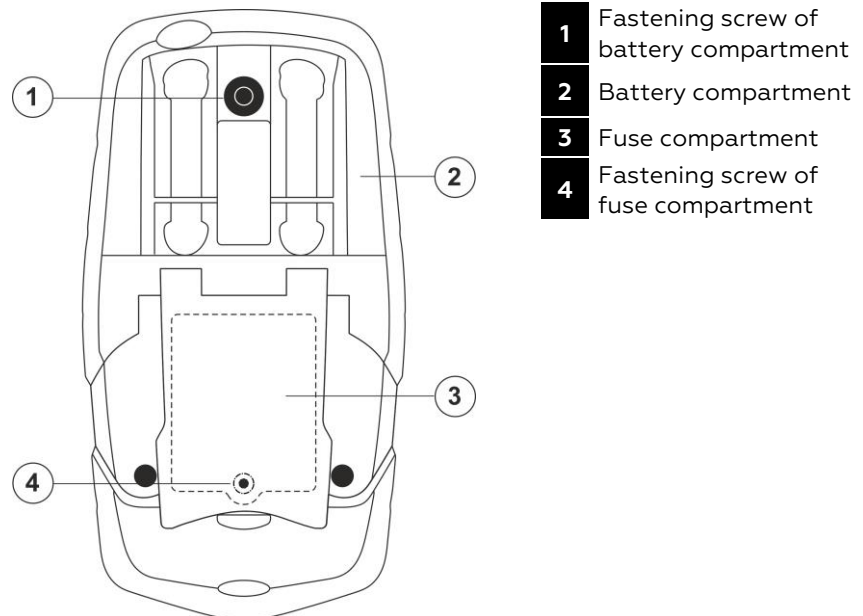

Fig. 10 Replacing batteries and internal fuses
3. Loosen the fastening screw of the battery compartment cover (see Fig. 10 – part 1) on the top rear part of the instrument and remove the cover.
2. Loosen the fastening screw of the fuse compartment cover under the instrument's stand (see Fig. 10 – part 4) and remove the cover